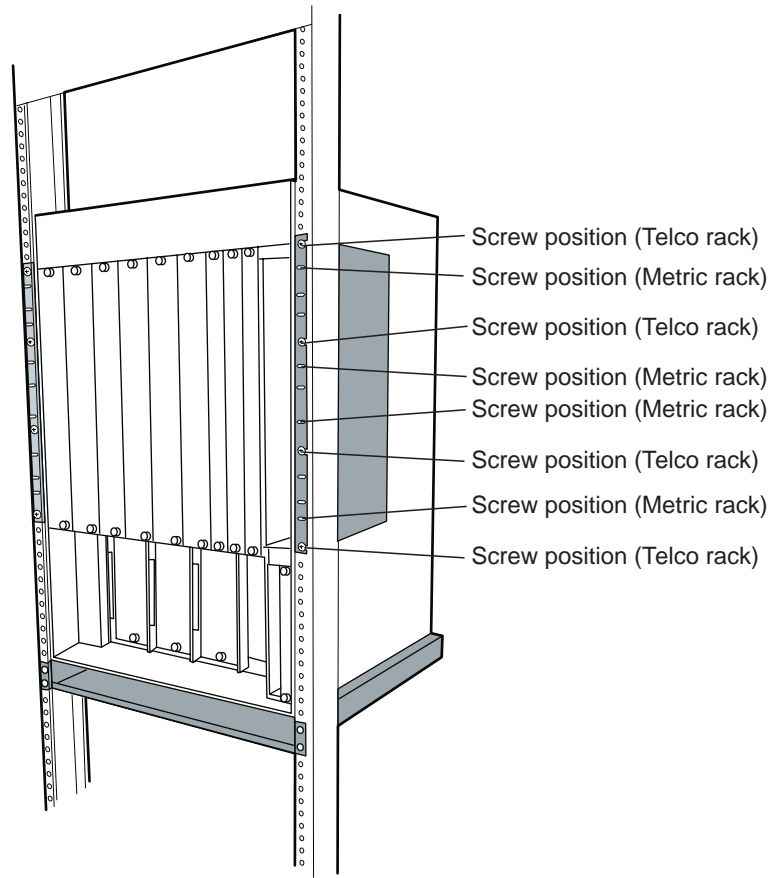

Figure 6. Rack-Mounted 8265 Switch With Cable Management Tray
1. Install each of the 8 clip nuts provided onto each side of the front of the rack (4 clip nuts per rack mount flange). Install each clip nut behind a hole into which you plan to install a trusshead screw. Refer to Figure 6.
- b. Install the remaining screws in open slots on each rack mount flange (for a total of four screws per rack mount flange, see Figure 6). Tighten all screws completely.
To install the switch in a Metric Rack (see Figure 6):
Figure 6 shows a rack mounted 8265 switch with a Cable Management Tray installed.